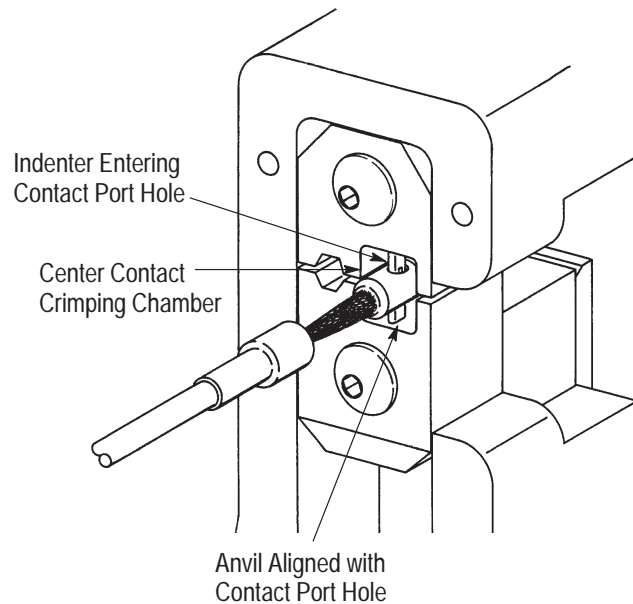

Figure 2
2. Position contact assembly in the center contact crimping chamber so that the indenter aligns with the port hole of the contact. See Figure 2.